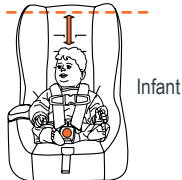

Fig. 5b
- Top of head has **NOT** reached 1" from top of seatback (Fig. 5b).